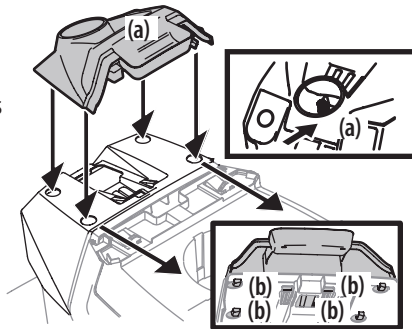

Figure 8
- To install the dash cap (a), line up the tabs (b) on the dash cap (a) with the holes in the upper dash as shown in Figure 8.
- Slide the tabs (b) into the holes in the upper dash and push forward on the dash cap (a) to lock into place. See Figure 8.